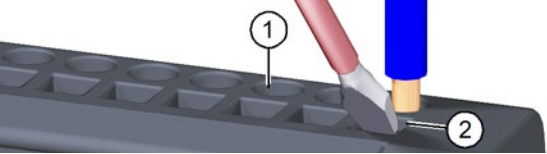

Fig. 5: Wire the backplane
- ▶ Wire the backplane as described in the installation specifications. The openings for the push-in terminals (item 1 in Fig. 5) are at the top and bottom of the backplane. The label on the backplane shows the terminal assignments.
- ▶ Insert the rigid wire or ferrule into the round opening of the push-in terminal (item 1 in Fig. 5) as far as it will go.
- ▶ Insert the screwdriver from the front into the square opening (item 2 in Fig. 5) at a 45° angle.